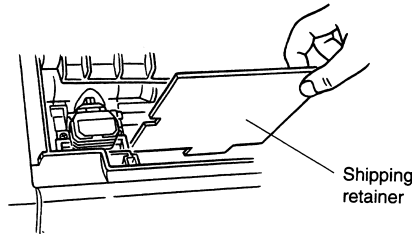

Figure 1, Shipping Retainer Removal
18. Remove the Printer (0528-0032-01) from its carton. Remove all tape from the printer and remove the carriage cover to gain access to the print head. Referring to Figure 1, ensure that the printer ribbon cartridge is installed properly and remove the plastic stop that secures the print head.